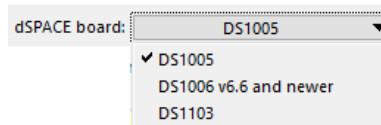

Figure 36, Choose the dSPACE board.
- (39) Drop-down control for selecting the type of dSPACE board (Figure 36).